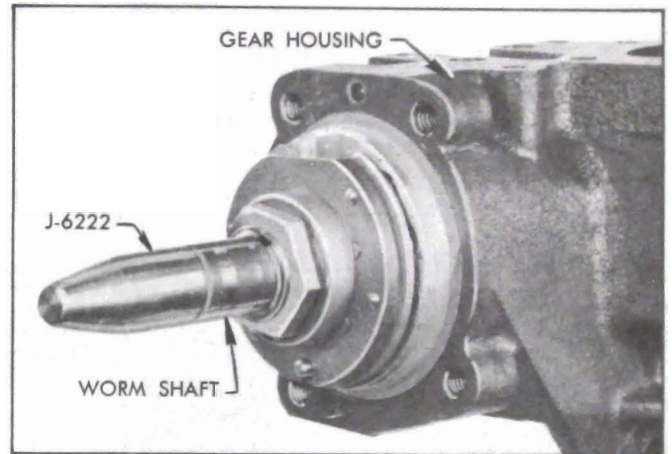

Figure 8-37—Seal Protector Installed on Worm Shaft
14. Install Seal Protector J 6222 over worm serrations to prevent damage of end cover seal. See Figure 8-37. Assemble end cover over worm and adapter making certain that adapter pin enters pilot hole in end cover. Align end cover holes with housing holes and install retaining bolts. Tighten bolts evenly to 25 to 30 ft. lbs.